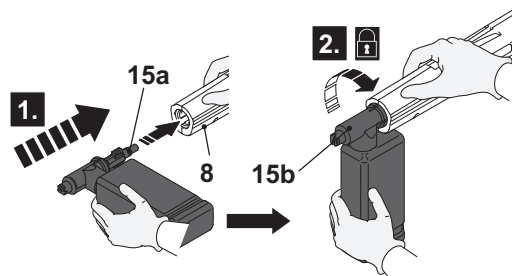

Fig. 15
- > Align and insert the tongues (15a) of the soap tank (15) with the grooves of the connection port of the spray gun (8) . (Fig. 15, step 1).
- > Securely fit the soap tank by turning it clockwise to lock it in place (Fig. 15, step 2).